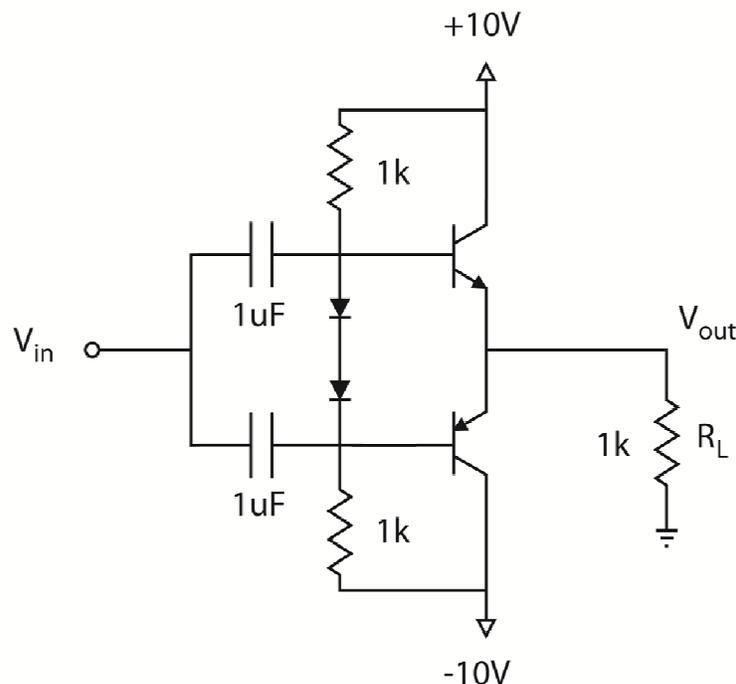

Fig. 2
1. Construct the circuit as depicted in Fig. 2. Apply a 1V, 1kHz sinusoidal signal to the input and observe the output on the oscilloscope. Measure the peak voltage and sketch the waveform. How does the output compare to that of the class B? With a 1V signal in, what do you get out? Explain possible reasons for any distortion that may still be present.